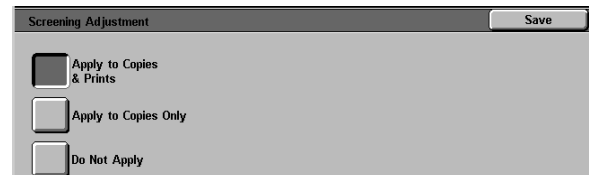

Figure 57: Screening Adjustment screen
- For Screening Adjustment, touch the box that indicates the appropriate application for the adjustment, as illustrated in Figure 57.